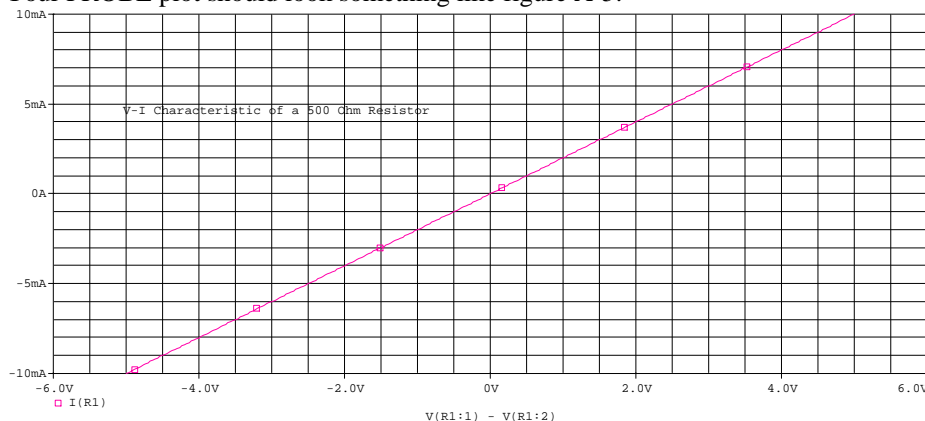

Figure A-5
- Your PROBE plot should look something like figure A-5: